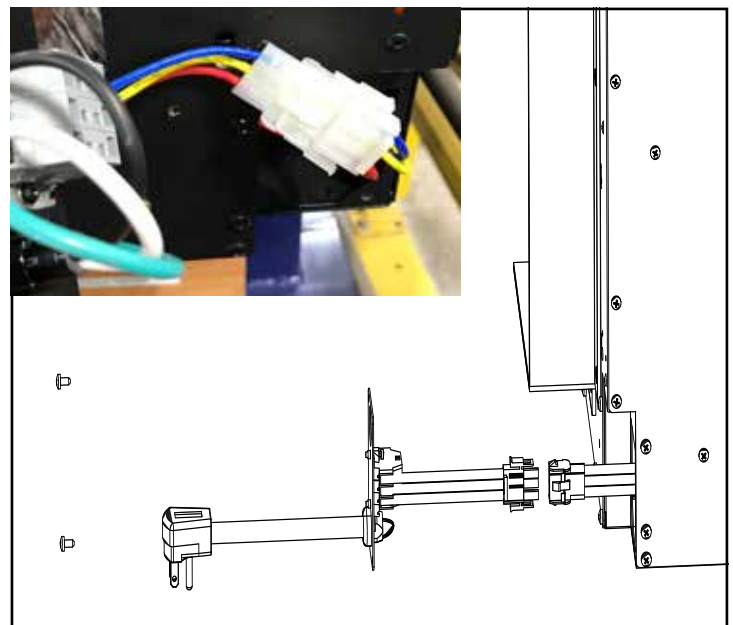

Figure 4.12 Power Cord Connection
1. Remove the terminal block cover plate located on the right end of the appliance by removing two screws. See Figure 4.12
3. Connect the three conductor wire connector to the connector on the block supplied with the power cord kit. See Figure 4.12.